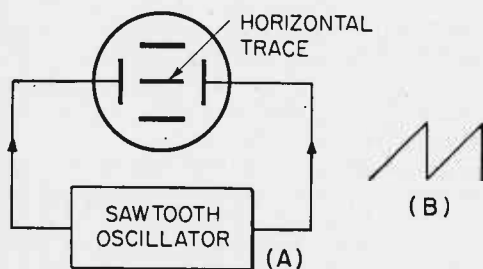

Fig. 8. A horizontal line trace occurs when AC signal is on horizontal plates.
**Measuring Time.** By applying a sawtooth voltage to the horizontal deflection plates, as shown in Fig. 8(A), the dot moves at even speed from the left side of the screen to the right. The sawtooth voltage rises evenly from zero to its maximum value and then drops abruptly to zero, and keeps repeating itself, as shown in Fig. 8(B).